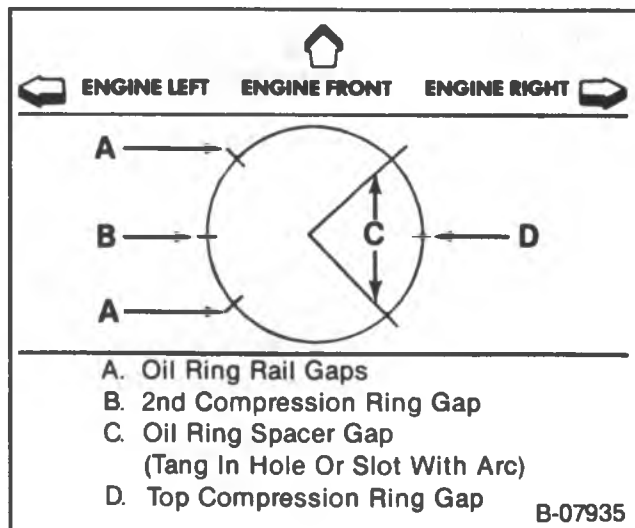

Figure 28 — Ring End Gap Location
- Locate the piston ring end gaps as shown in figure 28. Lubricate the piston and rings with engine oil.